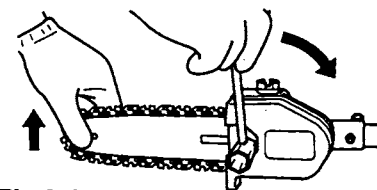

Fig.2-6
7. Raise the bar end, and tighten the chain (1) by turning the tension adjustment bolt (2) clockwise. To check proper tension, lightly lift up the center of chain and there should be about 0.5-1.0mm clearance between bar and edge of drive link (3). (Fig. 2-6, 7)
- PROPER TENSION IS EXTREMELY IMPORTANT! (Fig. 2-6, 7)
8. Raise the bar end and securely tighten the chain bar clamp nut with the box wrench. (Fig.2-6)